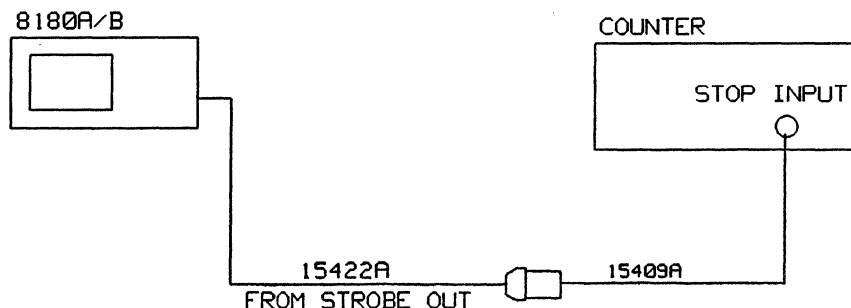

Figure 6-1. Test Setup for the Internal Clock Frequency Test
- Connect equipment as shown in Figure 6-1 and press RUN.